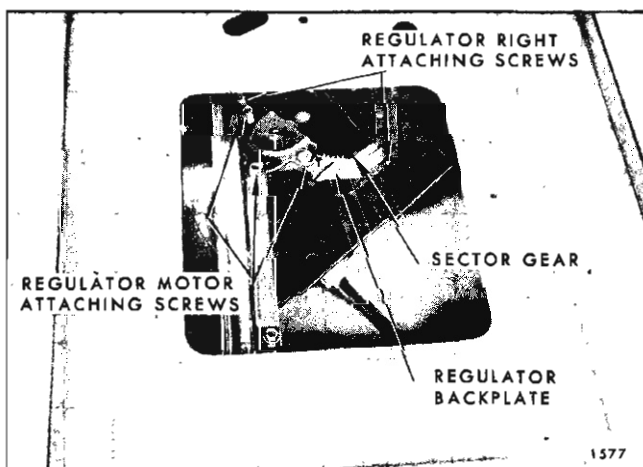

Fig. 2F24—Tail Gate Window Regulator Motor Removal
3. Through tail gate inner panel access hole, remove outside handle or escutcheon attaching nuts. (See Fig. 2F23).